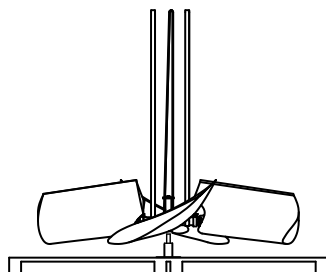

Figure 38. Lift Fan From Crate
4. Lift the fan off the shipping crate. Be careful not to damage blades (**Figure 38**).